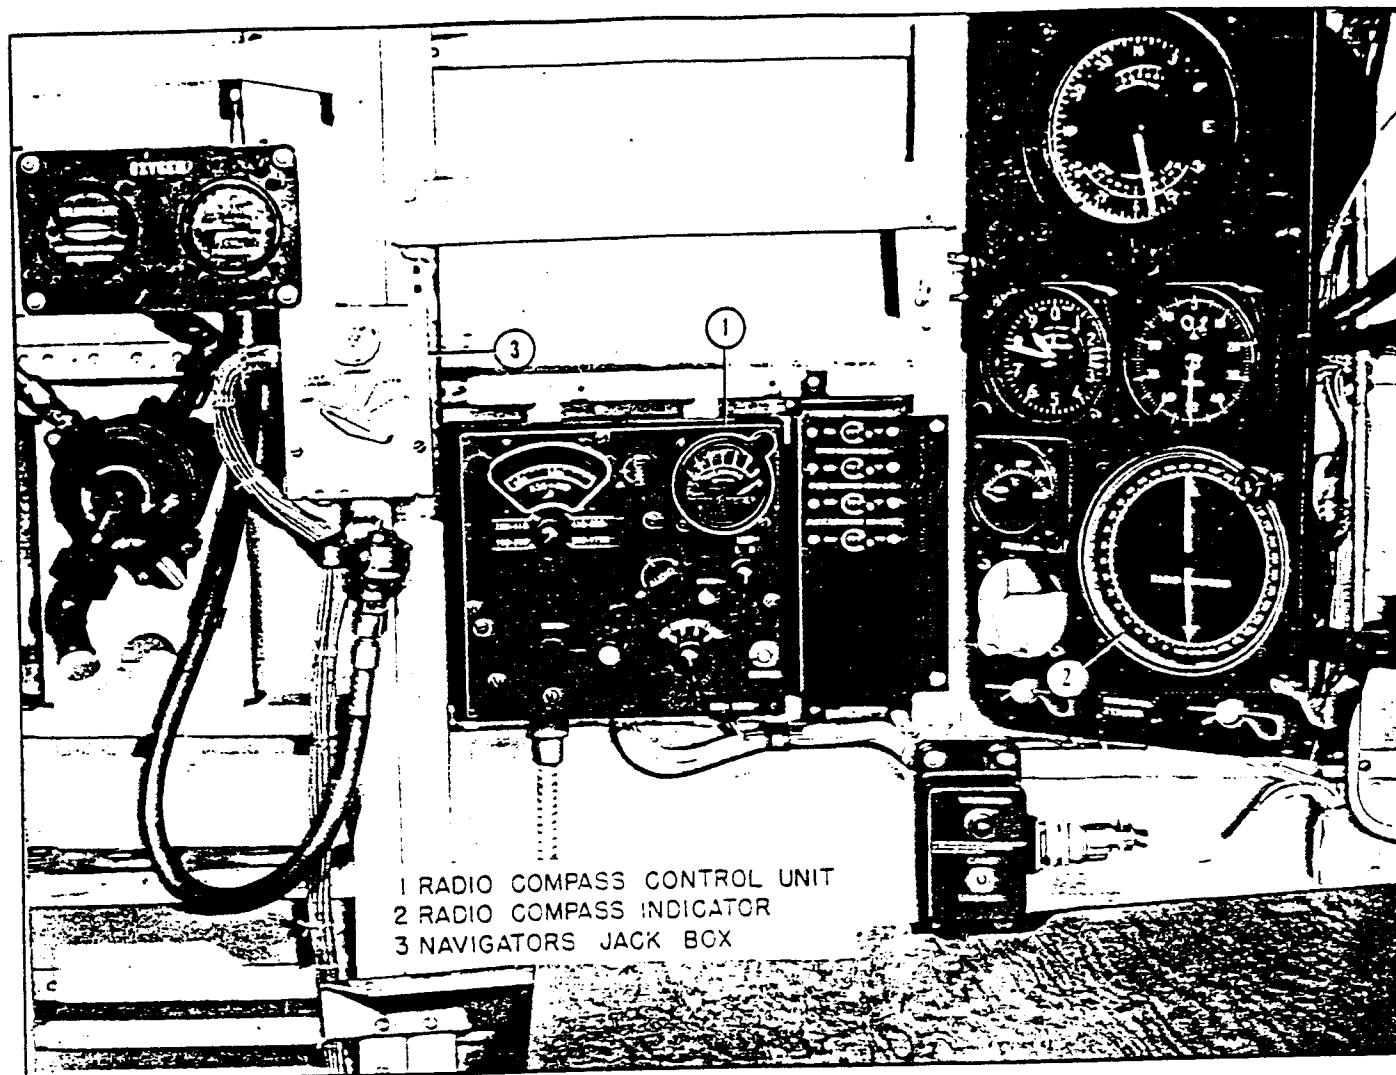

Figure 20. Navigator's Radio Compass Control Box and Indicator
4. NAVIGATOR'S INDICATOR I-82. (See figure 20.)